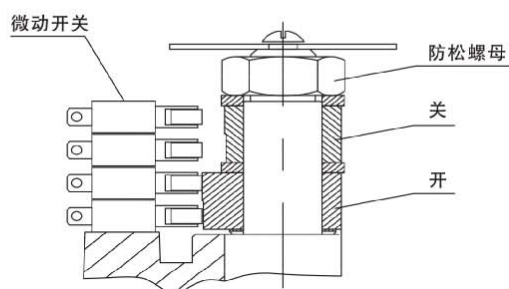
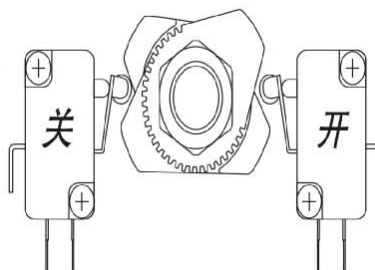

图13
图14
1. 行程限位的调整 (图13, 图14) Adjustment of stroke limit